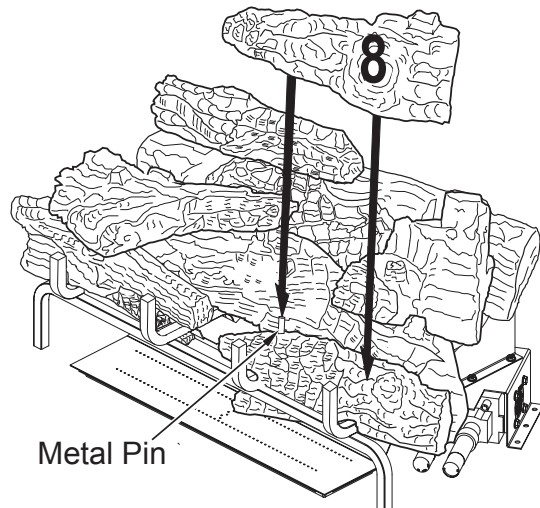

Figure 29 - Installing Log # 8
8. Place the front right mid log (#8) on top of the front right log (#4) as shown in Figure 29. Match the round metal pin on the top of the front right log (#4) with the round hole on the bottom of the front right mid log (#8).